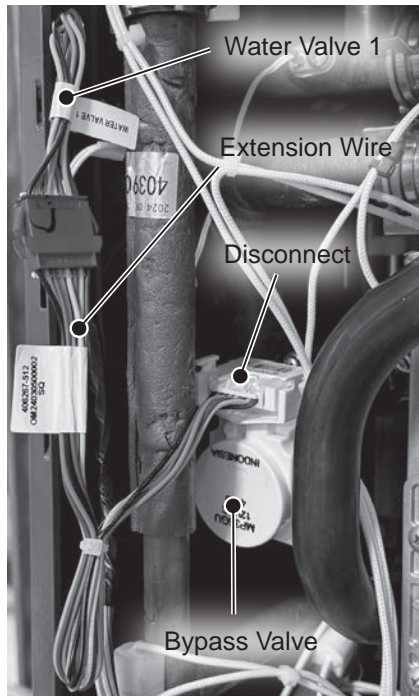

Figure 44 - Disconnecting water valve 1 and extension wire
- 22 Locate the water valve 1 wiring harness and extension wire connected to the bypass valve. Disconnect wiring at the bypass valve. See Figure 44.